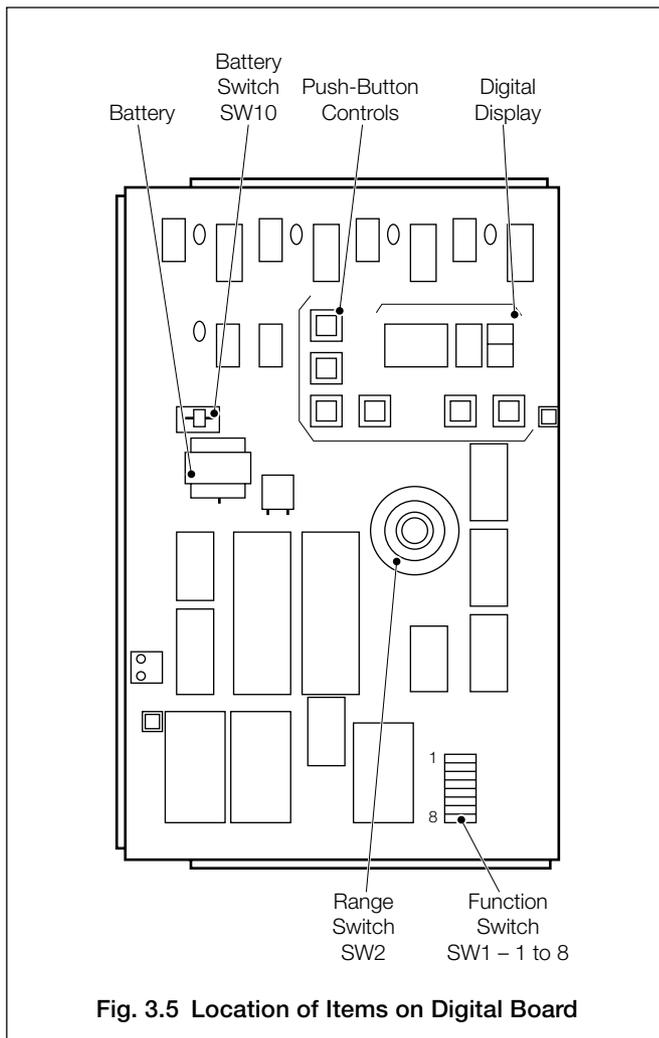

Fig. 3.5 Location of Items on Digital Board
- b) Set the battery switch, SW10, to ON – see Fig. 3.5.
3.2.3 Circuit Board Function Switch SW1 (Fig. 3.5)